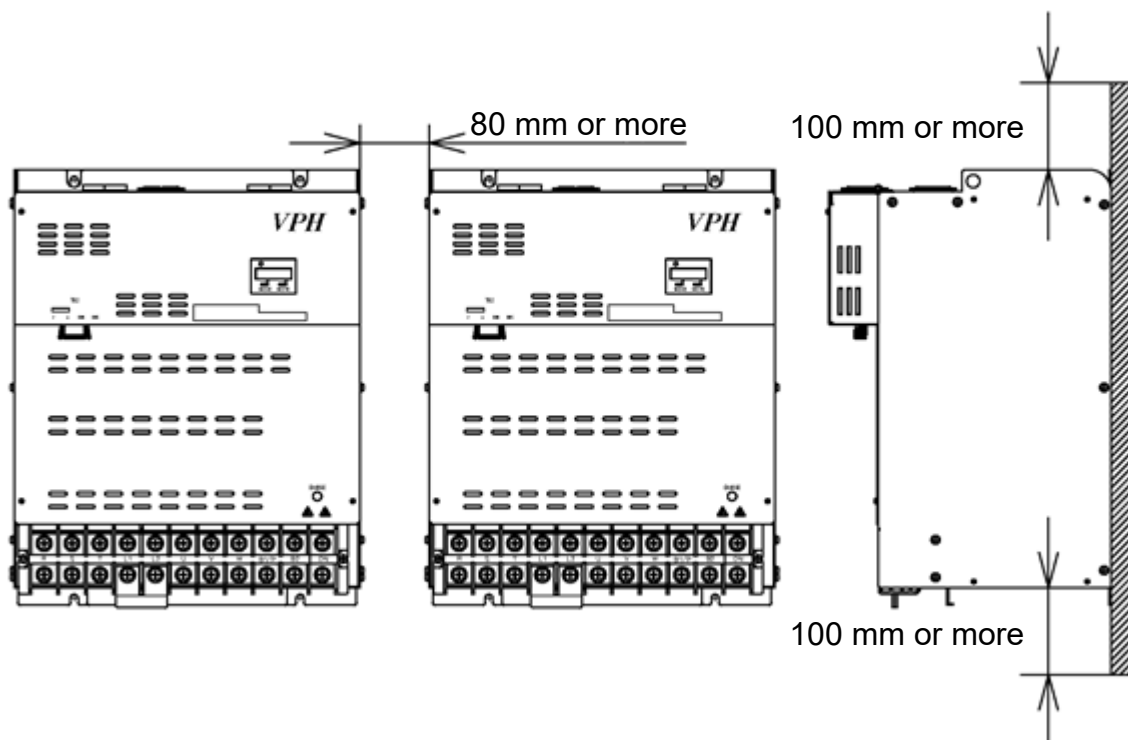

Figure 2-2 Installation and ventilation for a device
- (1) Be sure to install the device in the vertical direction to secure normal heat radiation effect.
- (2) Space around the device must be secured with the designated distance appointed by Figure 2-2 (distance from other components or parts and a side wall of the control panel) in view of heat radiation efficiency and maintenance easiness.
- (3) The round holes created on the right and left panel covers of the device can be used for temporary wire rope lifting necessary for installing and replacing this device. Note the following: